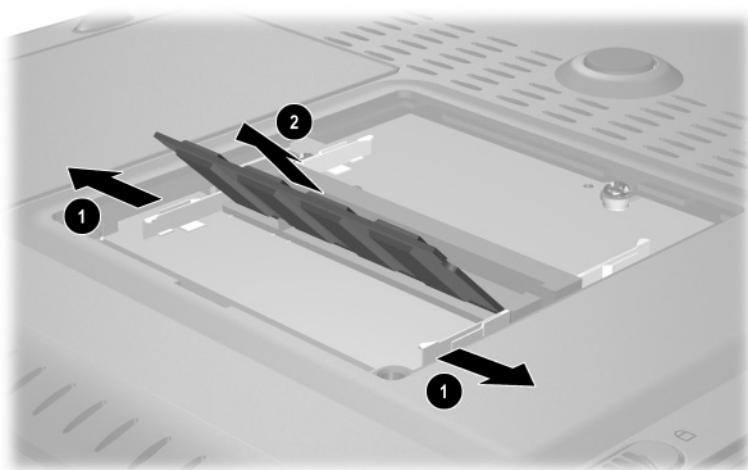

Figure 5-8. Removing a Memory Expansion Board
6. Spread the retaining tabs ❶ securing the memory expansion board to the system board (Figure 5-8). The memory expansion board rises at a 45-degree angle.
7. Pull the memory expansion board away from the connector at a 45-degree angle ❷.